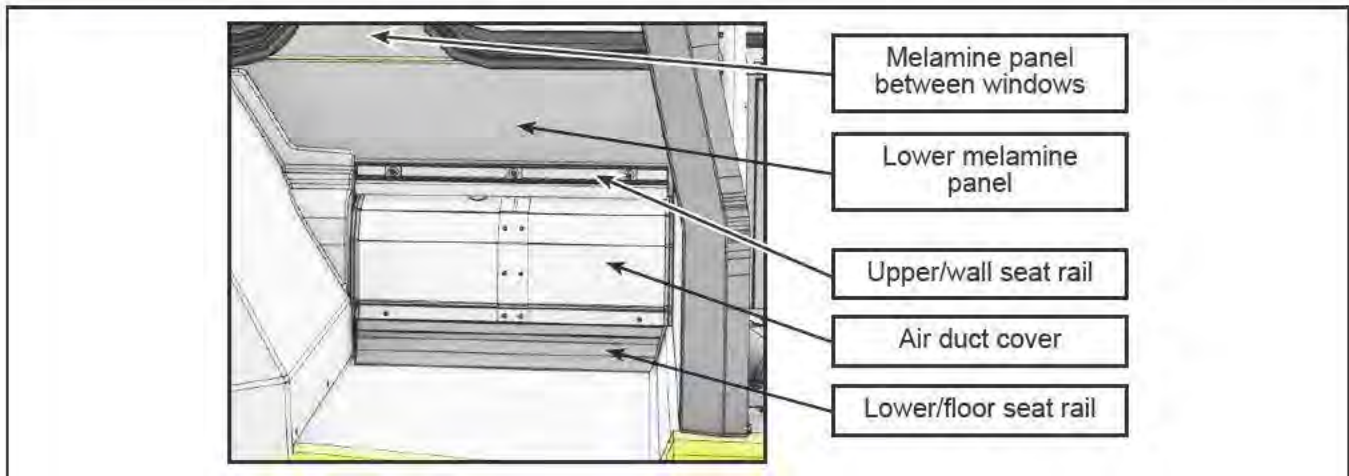

Figure 4 - Components to remove
- 1.11. Remove the upper/wall seat rail (Figure 4).
- 1.12. Remove the air duct plate (Figure 4).
- 1.13. Remove the lower/floor seat rail (Figure 4).
- 1.14. Remove the melamine panels (Figure 4).